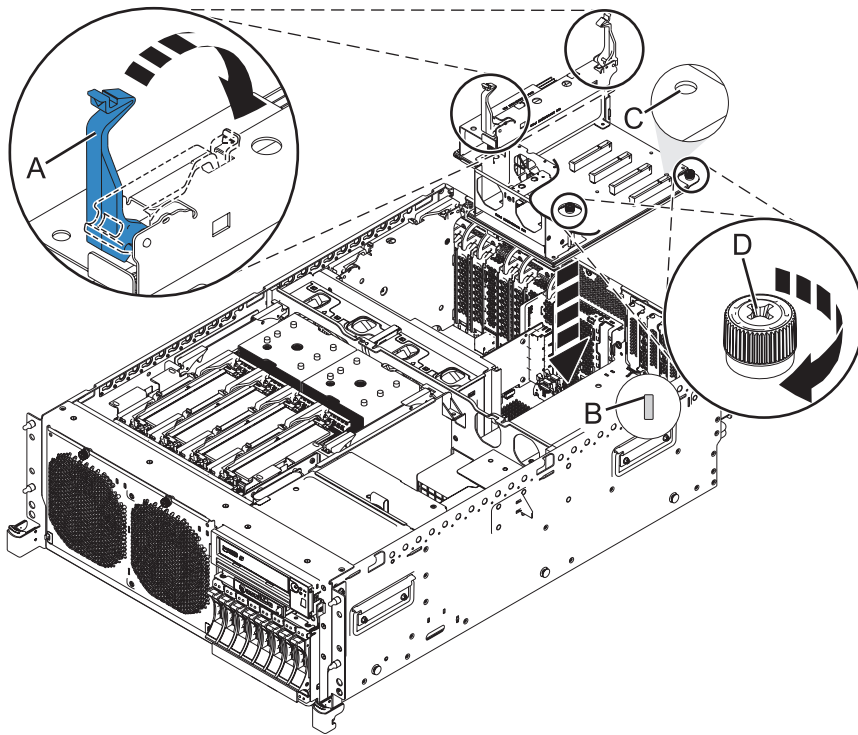

Figure 39. Installing an expansion riser in a rack-mounted system unit
13. Carefully align the expansion riser hole (C) with its male counterpart (B) on the system board and lower it down until the riser rests flatly on the system board. See Figure 39 on page 47.
15. Press the expansion riser latches (A) down into the closed position.
16. Tighten the securing knobs (D) on the expansion riser by turning them clockwise.